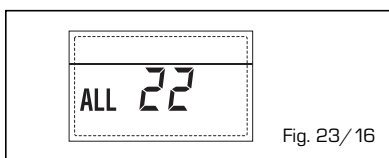

Fig. 23/16
- **ANOMALIA GUASTO SONDA MANDATA SECONDA ZONA MISCELATA "ALL 23"** (fig. 23/17)